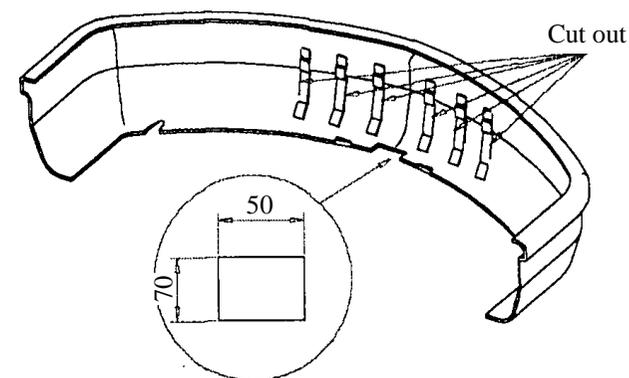

Fig. 2
3. Put main bar of the towbar (pos. 1) to the car and in places original tow handles fix it using original bolts.
4. Cut out fragments of the bumper (see fig. 2). Fragment 50x70mm - in lower part in axis of the bumper.
5. Fix tow-ball (pos. 2) and socket plate (pos. 3) using bolts M12x75mm (pos. 4) from accessories.